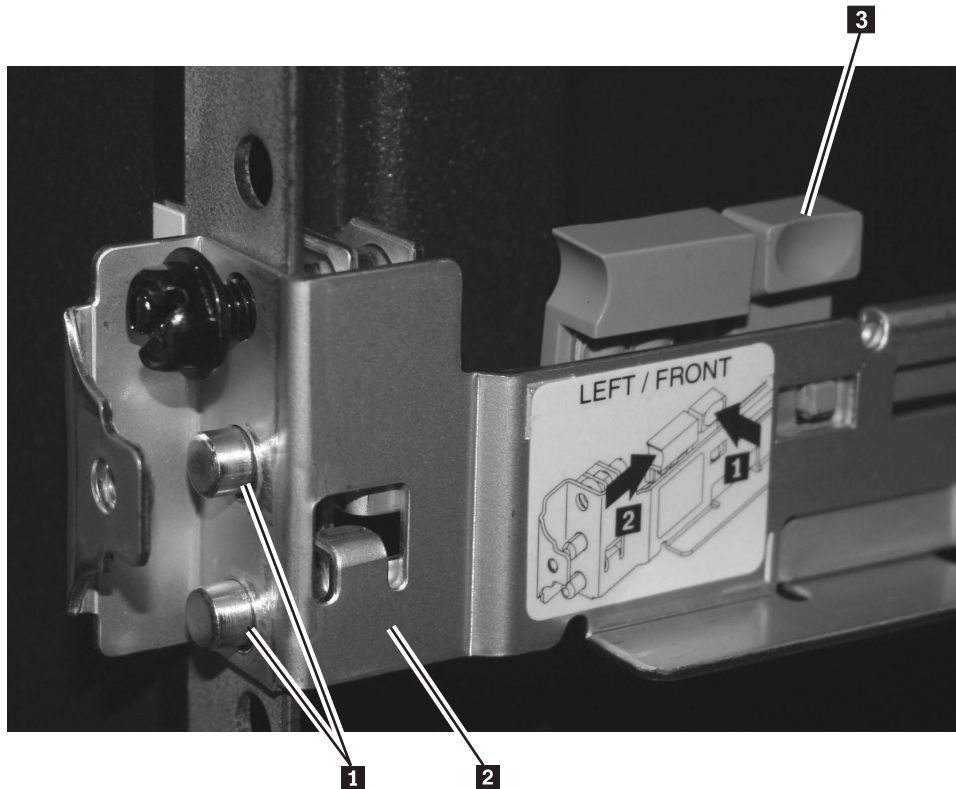

Figure 54. Aligning the pins on the left front support rail for the SAN Volume Controller 2145-8A4 with the front mounting flange
- a. Start from the front and align the pins (**1** in Figure 54 on page 75) on the front rail-locking carrier with the holes on the rack mounting flange **2**.
- b. Release the rail-locking latch by pushing the smaller blue tab **3** away from the rail. The pins spring into the closed position. Ensure that the pins go fully through the holes in the mounting flange, as shown in Figure 54 on page 75.